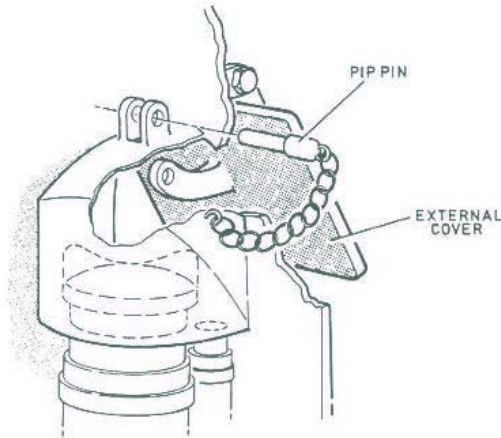

Fig.1-8 Refuelling arrangement
11. Fuel filler arrangement (Fig.1-8)